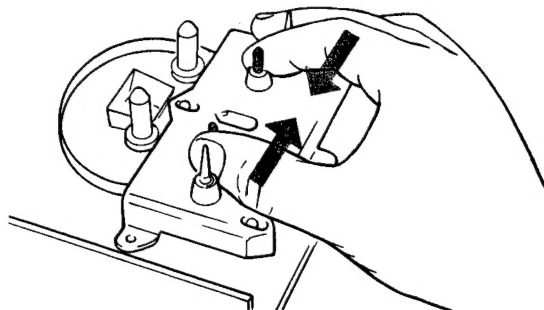

Fig. 3.10 Removing the flywheel mounting plate
8. Hold the flywheel plate as shown in Figure 3.10 exerting pressure sideways with the fingers and thumb so that the flywheels do not drop out of their bearings.